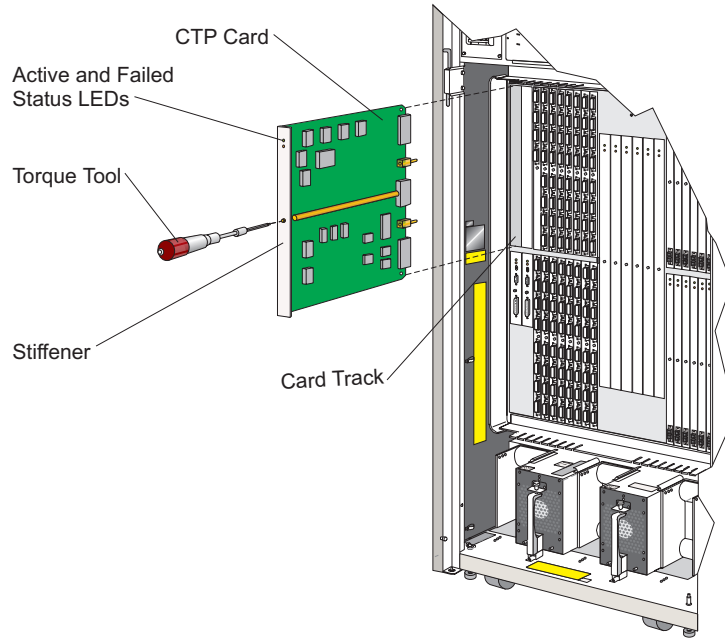

Figure 3-9. Control Processor (CTP) Card, Nonredundant
Use the following procedure to remove a CTP card from a **nonredundant** CTP card unit. Refer to Figure 3-9 on page 3-21.
3. Identify the CTP card (refer to Figure 3-9 on page 3-21).
Use the following procedure to replace a CTP card within a **nonredundant** CTP card unit. Refer to Figure 3-9.
1. Holding the CTP card by its stiffener, carefully insert it straight into its card track (refer to Figure 3-9). Note that the label identifying the CTP card should be at the top and the component side of the card should face to the right.